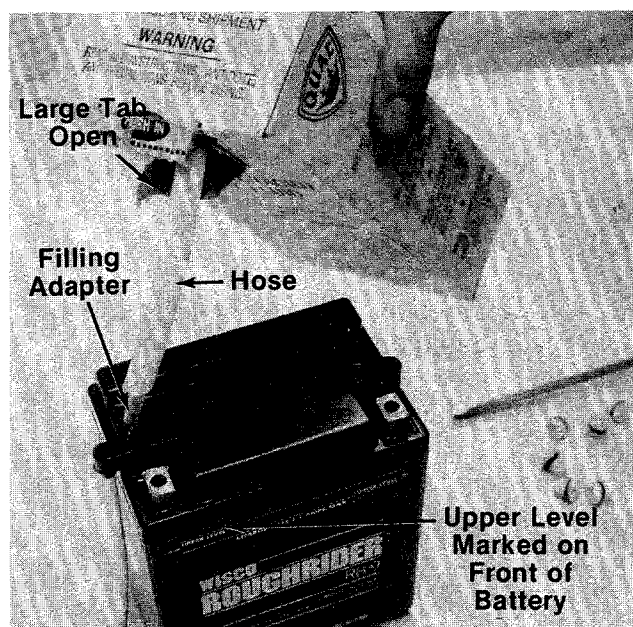

FIGURE 9.
- ← 6. Pull out hose from package and hold upright. Squeeze hose forcing all acid back into package. Cut off tip of hose and insert filling adapter. See figure 9.
7. Fill each cell to upper level marked on front of battery. Replace fill caps on battery. See figure 9.